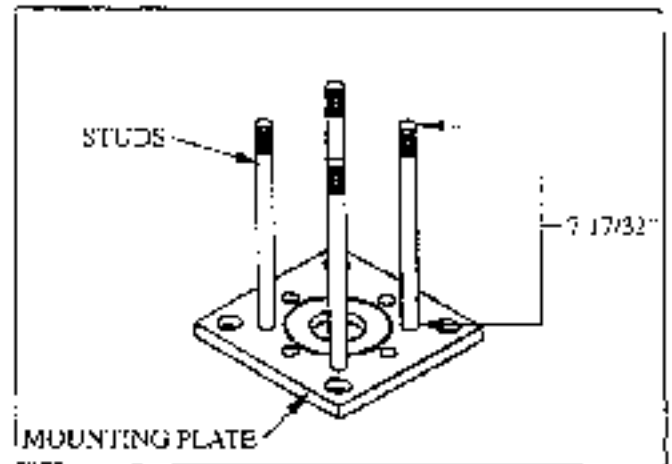

Figure 38
1. Place mounting plate on table as shown. Install the four studs into plate. (The long threads go into the plate). Lubricate the "O" Ring and install into plate. See Figure 38 & 39.